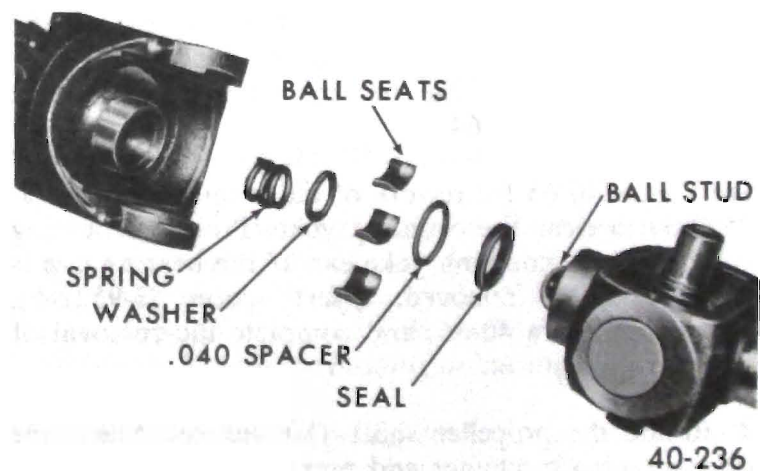

Figure 40-67 Ball Stud Seat - Exploded View
6. Pry the seal from the ball cavity, remove washers, spring, and three shoes, as shown in Figure 40-67.